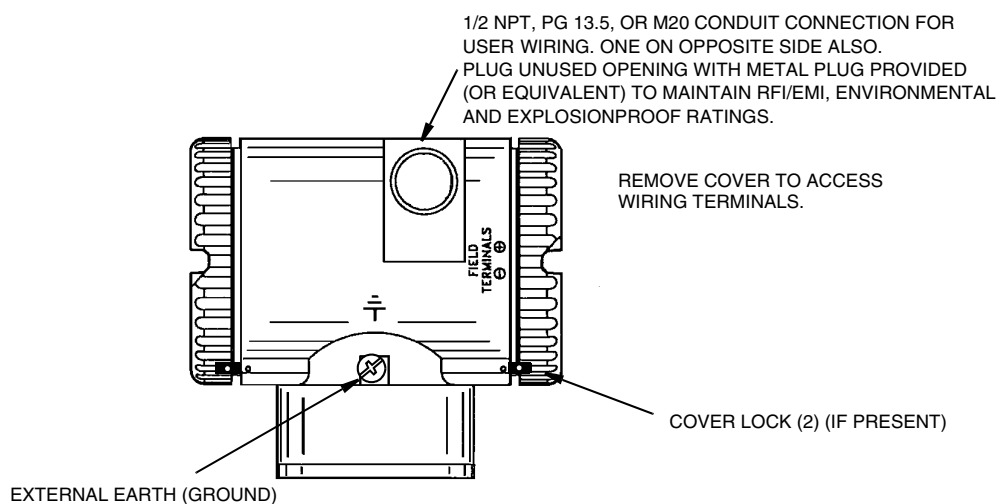
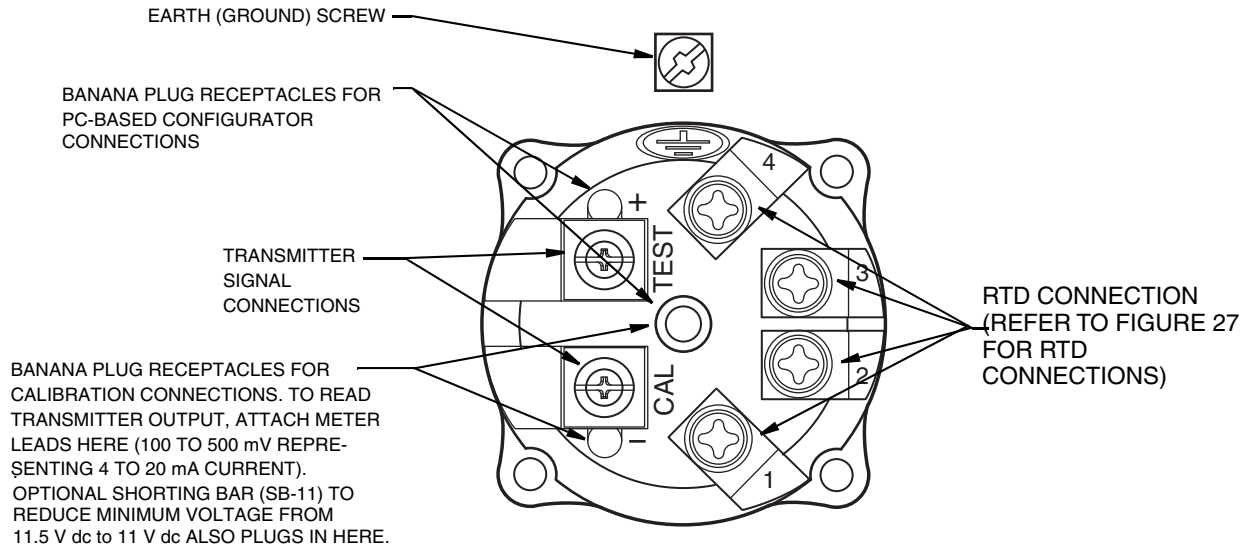
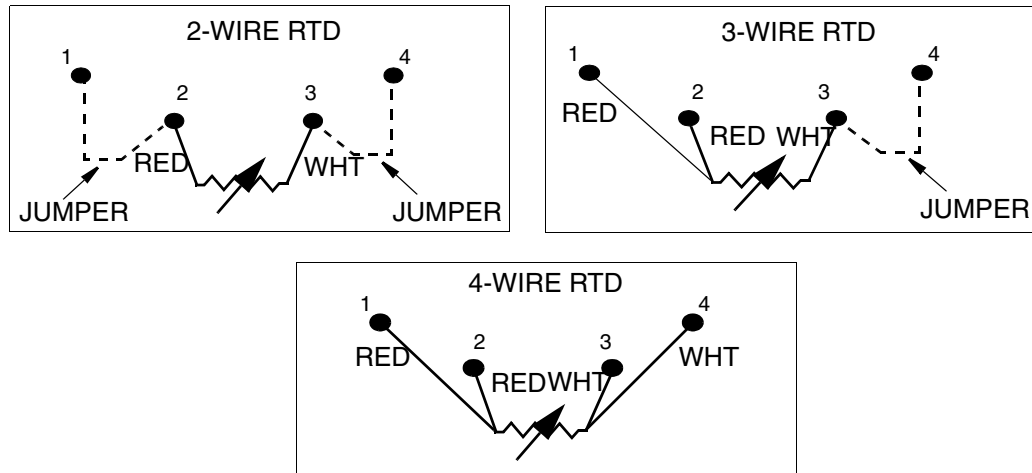

Figure 21. Accessing Field Terminals
Figure 22. Identification of Field Terminals
Figure 27. RTD Wiring
Electronic housing cover locks, shown in Figure 21, are provided as standard with certain agency certifications and as part of the Custody Transfer Lock and Seal option. To lock the covers, unscrew the locking pin until approximately 6 mm (0.25 in) shows, lining up the hole in the pin with the hole in the housing. Insert the seal wire through the two holes, slide the seal onto the wire ends and crimp the seal.
For access to the field terminals, thread the cover lock (if present) into the housing to clear the threaded cover and remove the cover from the field terminals compartment as shown in Figure 21. Note that the embossed letters **FIELD TERMINALS** identify the proper compartment. Identification of terminals is shown in Figure 22.
2. Run signal wires (0.50 mm² or 20 AWG, typical) through one of the transmitter conduit connections as shown in Figure 21. Use twisted pair to protect the 4 to 20 mA output and/or remote communications from electrical noise. Maximum recommended length for signal wires is 3050 m (10000 ft)
6. Connect the power supply and receiver loop wires to the “+” and “–” terminal connections shown in Figure 22.
5. Connect an earth (ground) wire to the earth terminal in accordance with local practice. Ground terminal is shown in Figure 22.
6. Connect the signal wires to the transmitter “+” and “–” terminal connections shown in Figure 22.
7. The HART Communicator or PC-Based Configurator can be connected via banana plugs to the top two receptacles (designated TEST) on the terminal block in the field terminal compartment as shown in Figure 22 or any other convenient location in the loop (subject to hazardous location restrictions).
Connect your RTD to terminals 1, 2, 3 and 4. Locations are shown in Figure 22. Wire per Figure 27.